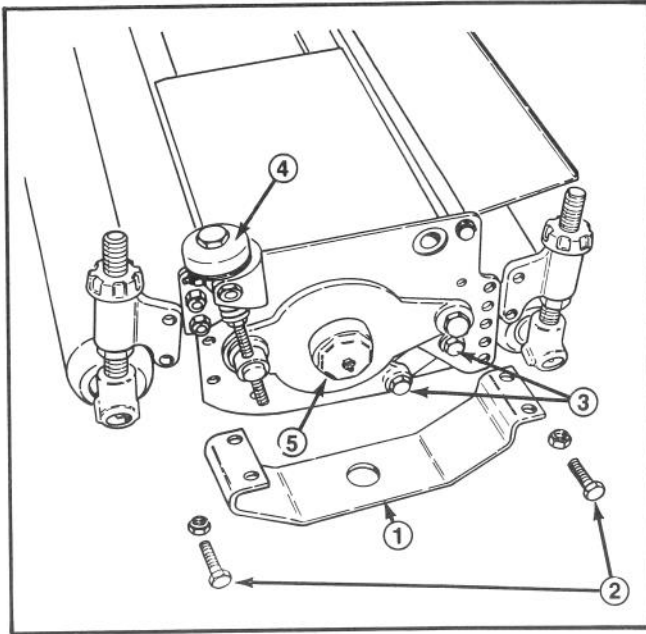

Figure 26
1. Remove the guards from each end of the cutting unit and the front and rear roller assemblies (Fig. 26).
11. To remove the bearing and seal from the bearing housing, remove the dust cap (Fig. 26) and press the bearing and seal out of the housing.